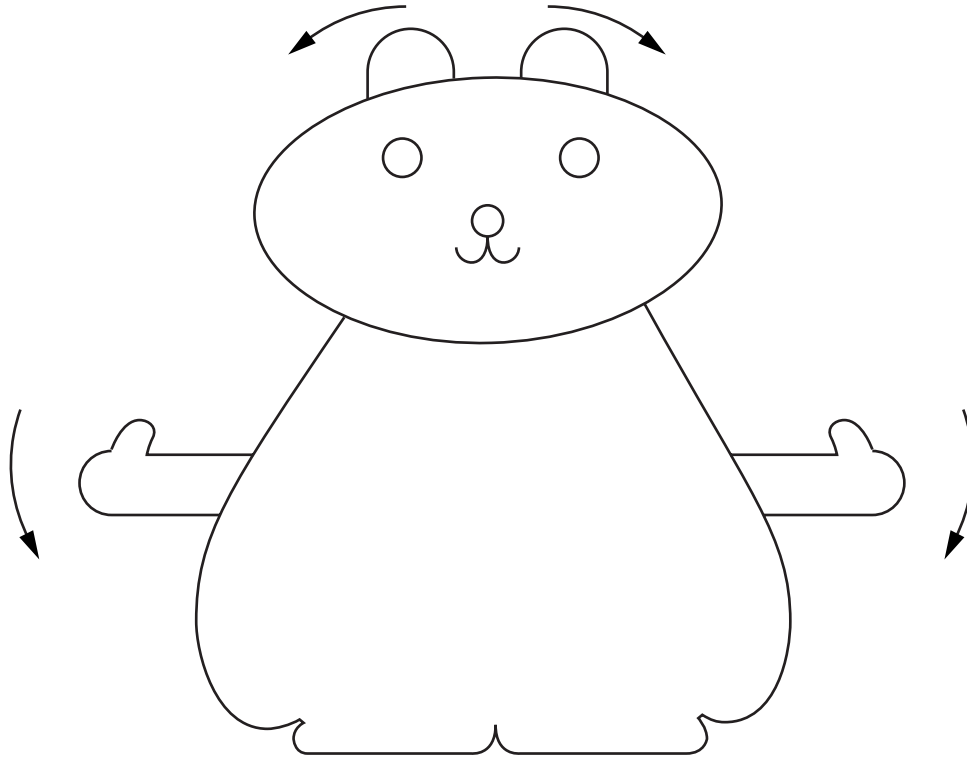
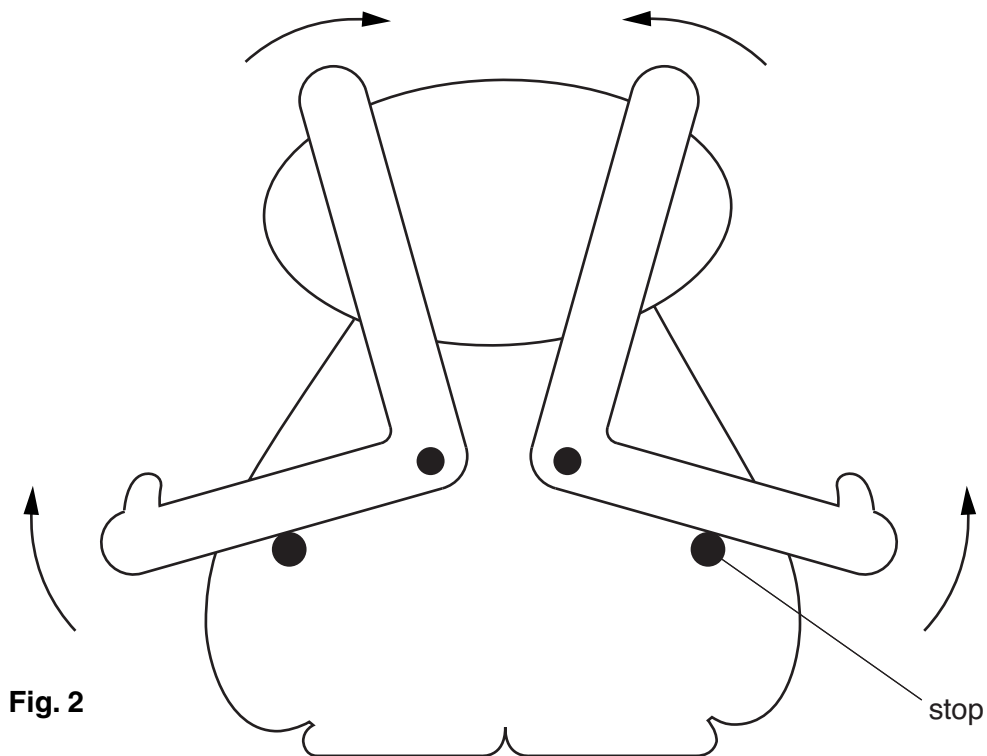

Fig. 1
Fig. 2
- 1 Fig. 1 shows the front view of a novelty clothes hook made from 6 mm thick plastic. When clothes are hung over the hands, the ears move as shown.
- (a) Fig. 2 shows the back of the clothes hook. Add sketches and notes to Fig. 2 to show how the arms and ears could be made to move back to the position shown in Fig. 1 after the clothes have been removed.